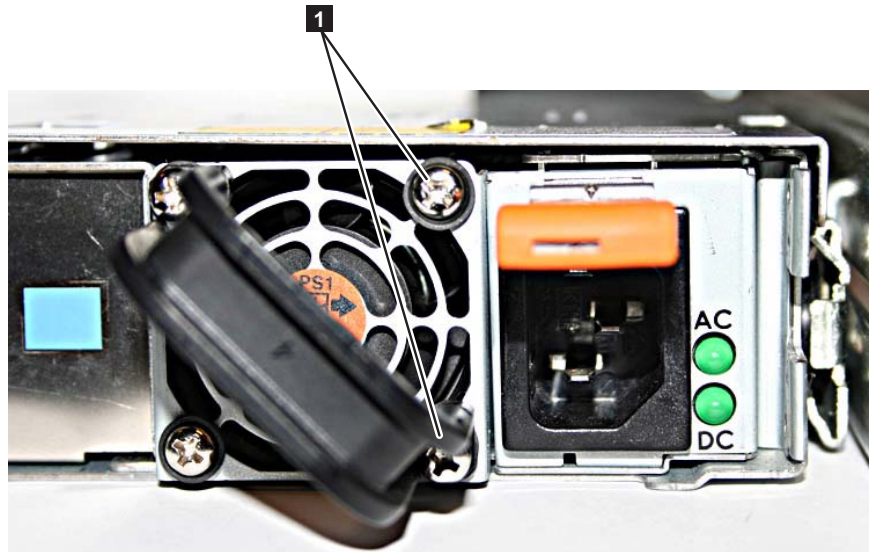

Figure 32. The SAN Volume Controller 2145-8G4 before you attach the cable retention bracket
1. With the node powered off and the power cable removed, unscrew and remove the two screws **1** on the right side of the rear plate that covers the power supply fan unit, as shown in Figure 32 on page 57.